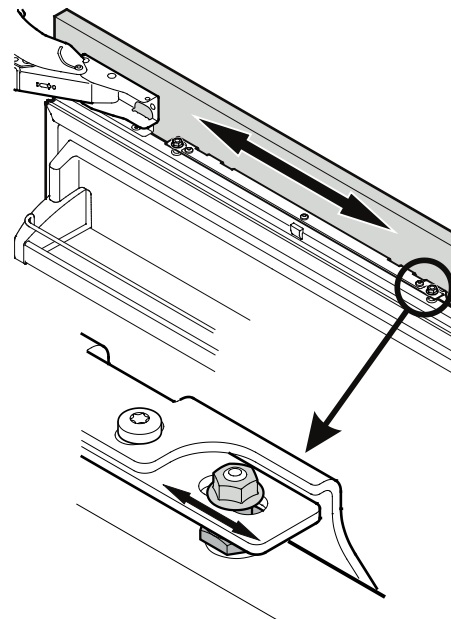

Figure 38
6. Align the panel horizontally (with the long holes in the attachment bracket) (**Figure 38**).